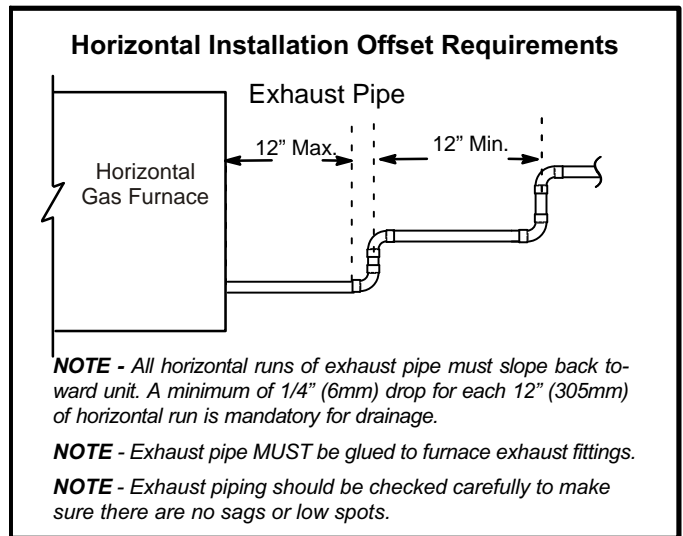

FIGURE 22
**Exhaust Piping (Figures 22, 24 and 25)**